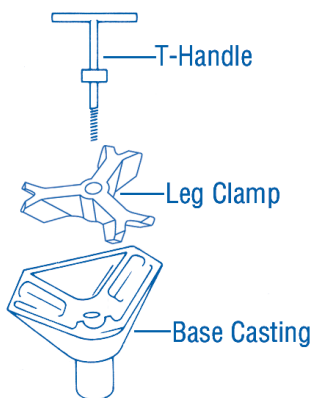

Figure 4
- Screw the base T-Handle clockwise into the bottom of the base casting, until the T-Handle engages the threads (see Figure 4).